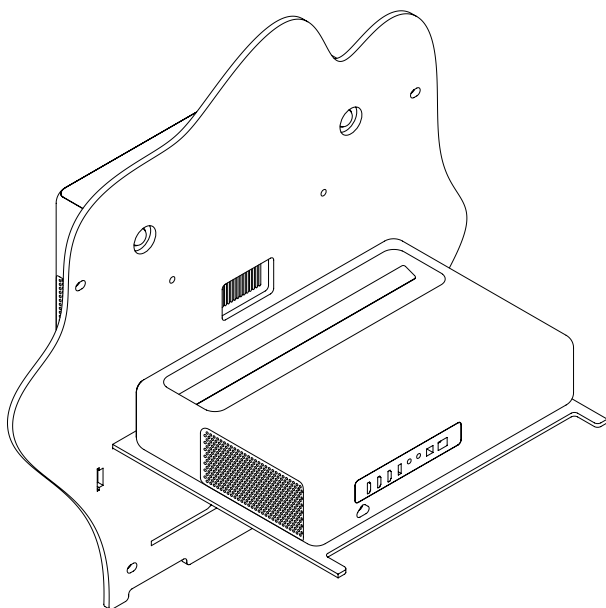

Figure 6.
- Open the structure from panel 10 and slide the projector and fit it into the slots, for additional security you can also screw it with 2 M4 screws (Figure 6)